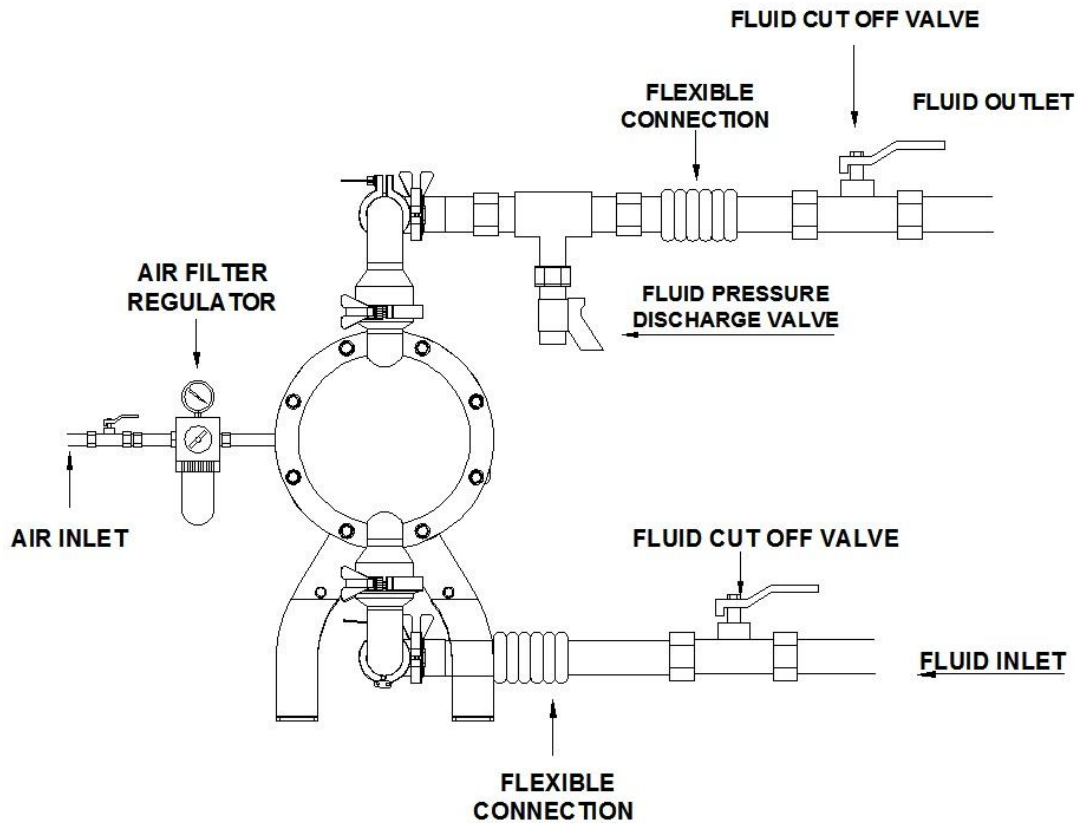

Figure 7- Typical installation scheme
A typical setup configuration is shown in figure 7. Further information and consultation on pump setup can be provided by your Ran Pump distributor.
A bleed-type master air valve is required in your system to relieve air trapped between this valve and the pump. Trapped air can cause the pump to cycle unexpectedly, which could result in serious injury, including splashing in the eyes or on the skin, injury from moving parts, or contamination from hazardous fluids. See Fig. 7.
1-Refer to the Figure 7 for the connection scheme. Fix these accessories to the wall or to a bracket. The air line feeding the accessories must be grounded.
**5.6.1 For the pump:** Use a conductor (for grounding) with a cross-section of at least 1.5 mm2. Connect the conductor to the pump's leg as shown on Fig. 7, and the other end to the grounding line.